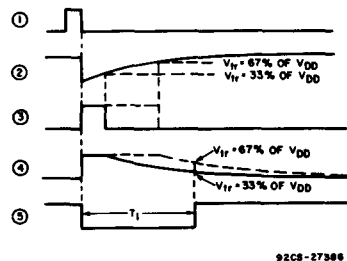

Fig. 14 - Waveforms showing the cancelling effects of transfer-voltage variations of the two COS/MOS inverters when two equal time constants are used.
The advantage of using two inverters fabricated on the same chip is that they have similar transfer voltages. When two equal RC time constants are used ($R_1C_1 = R_2C_2$), the effects of variations in transfer voltage from device to device are effectively cancelled out, as shown in Fig. 14. Eq. (1) can be used to show that the maximum variation in the time period T is less than 9 percent. The total time for one period,